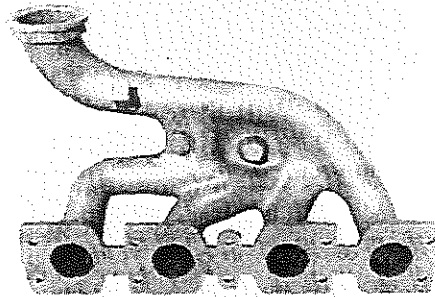

Fig.7. Exhaust manifold
15. (a) How can Additive Manufacturing (AM) and Design for Manufacturing and Assembly (DFMA) principles be effectively applied to the redesign of exhaust manifolds (Fig. 7) for improved performance and cost-efficiency in the automotive industry? In your response, discuss the AM-based design, address the significance of part orientation, removal of supports in the part. Also, discuss the potential benefits and challenges of implementing these concepts in exhaust manifold design.